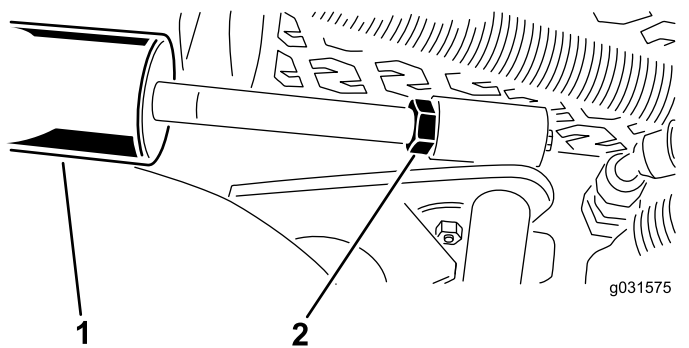

Figure 15
- A. Lower the cutting units and back off the jam nut on the cylinder (Figure 15).